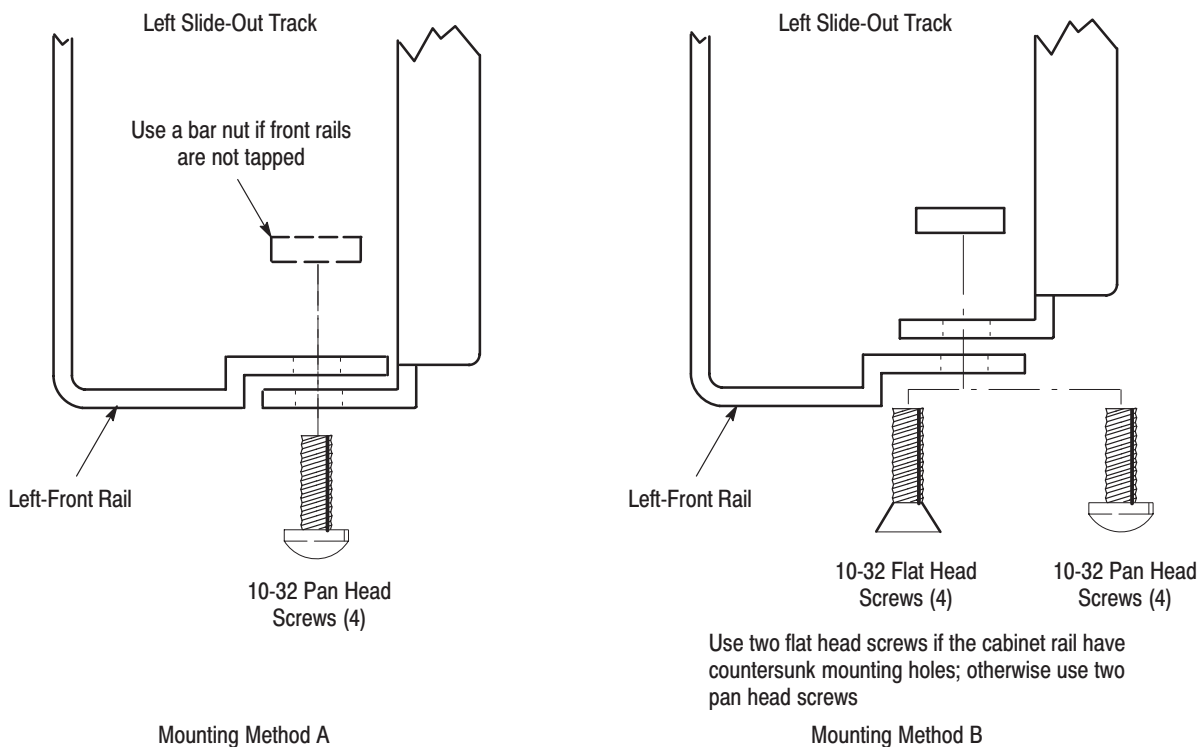

**Figure 8: Vertical Clearances for Rack Installation (Left-Front Rail Shown)**
- a. *Select the mounting position in rack:* Select two 1/2 inch spaced holes in the front rail. Verify that the 3/4 inch and 7 inch clearances exist relative to those mounting holes. See Figure 8.